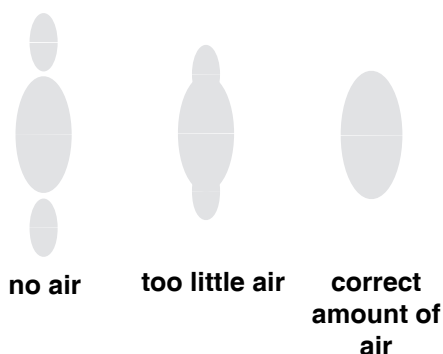

FIG. 6. Spray Pattern Problems
2. See FIG. 6. Set atomizing air pressure at about 5 psi (0.35 bar, 35 kPa) when triggered. Check spray pattern, then slowly increase air pressure until tails are completely atomized and pulled into spray pattern. Do not exceed 100 psi (0.7 MPa, 7 bar) air pressure to gun.